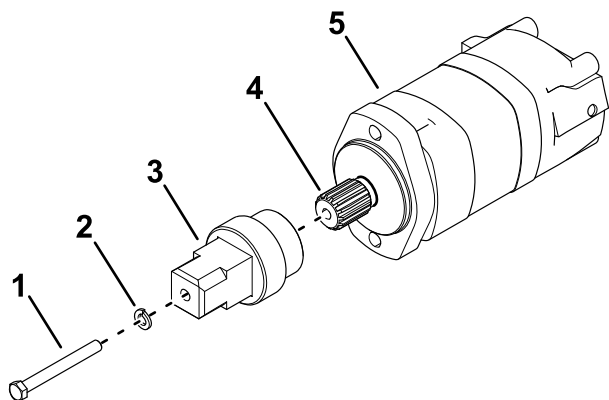

Figure 15
8. Remove the bolt (3/8 x 3-1/2 inches) and washer securing the drive adapter to the hydraulic motor and apply a thin layer of grease to the splines of the motor (Figure 15).